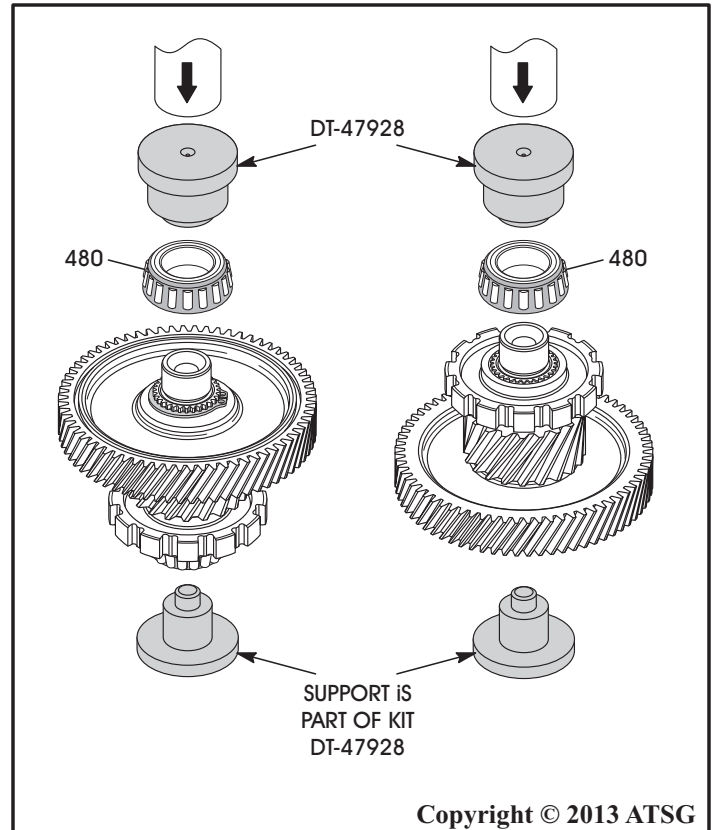

Figure 90
5. Install both bearings on differential pinion gear assembly using DT-47928 and hydraulic shop press, as shown in Figure 90.